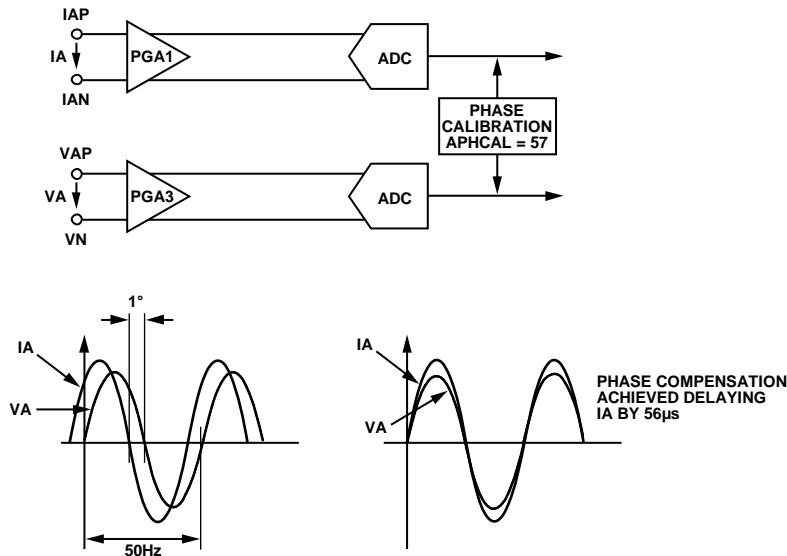

Figure 53. Phase Calibration on Voltage Channels
Figure 53 illustrates how the phase compensation is used to remove $x = -1^\circ$ phase lead in IA of the current channel from the external current transducer (equivalent of $55.5 \mu\text{s}$ for 50 Hz systems). To cancel the lead (1°) in the current channel of Phase A, a phase lead must be introduced into the corresponding voltage channel. Using Equation (18), APHCAL is 57 least significant bits, rounded up from 56.8. The phase lead is achieved by introducing a time delay of $55.73 \mu\text{s}$ into the Phase A current.